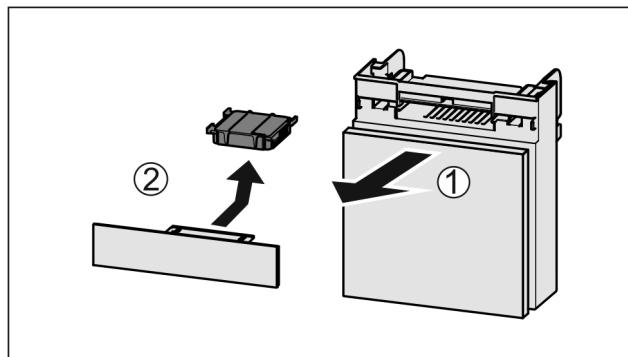

Fig. 31
- Pull out the compartment Fig. 31 (1).
- Remove the carbon filter Fig. 31 (2).